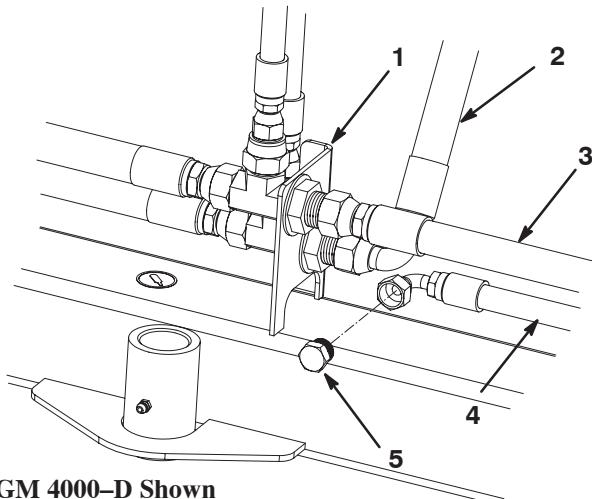

Figure 13
11. Route and connect the traction unit hoses (Fig. 13 & 14) to the brush bulkhead fittings as follows: